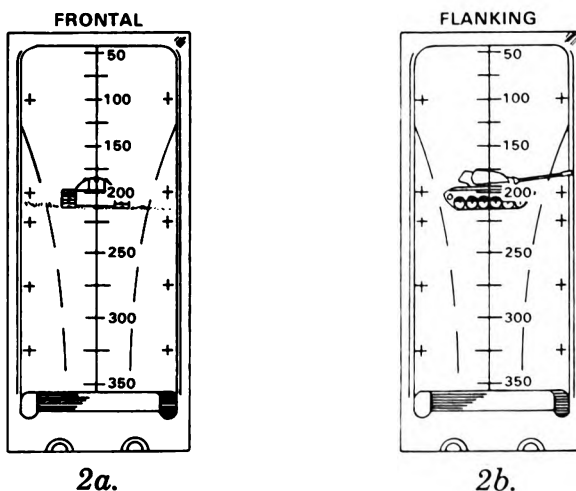

Figure 2. Stationary targets at an estimated range of 200 meters.
- (1) Locating the range mark on the vertical range line corresponding to the estimated range,
- (2) Placing that point on the center of target mass (figure 2), and
- (3) Fire.